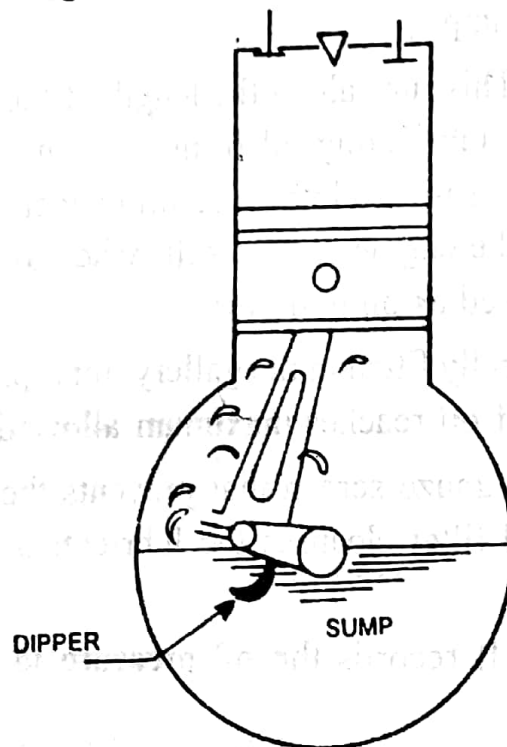

Fig. 7.22 SPLASH LUBRICATION
**(b) Splash System :** In this system oil is splashed over different working parts of an engine. Oil is contained in a through or sump (Fig. 7.22). The big end of connecting rod is provided with a 'spoon or